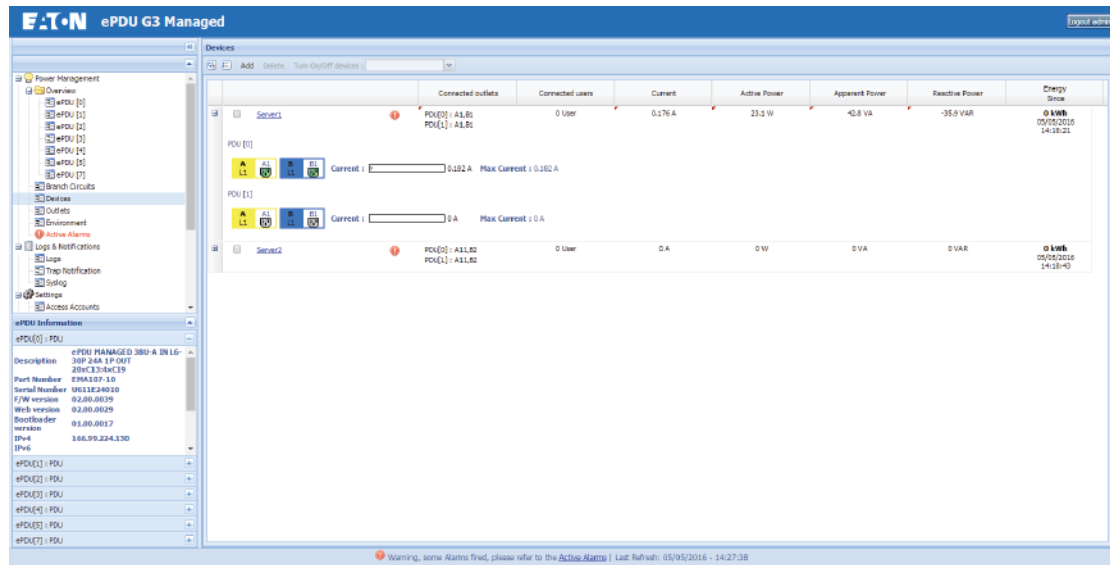

Figure 93. Expand Load-Balancing Details on Row for Device
5. Click the checkbox next to the device name or double-click the row to see load-balancing details about this device, including the outlet status, the gauge of the instantaneous current, and the peak current (see Figure 93).